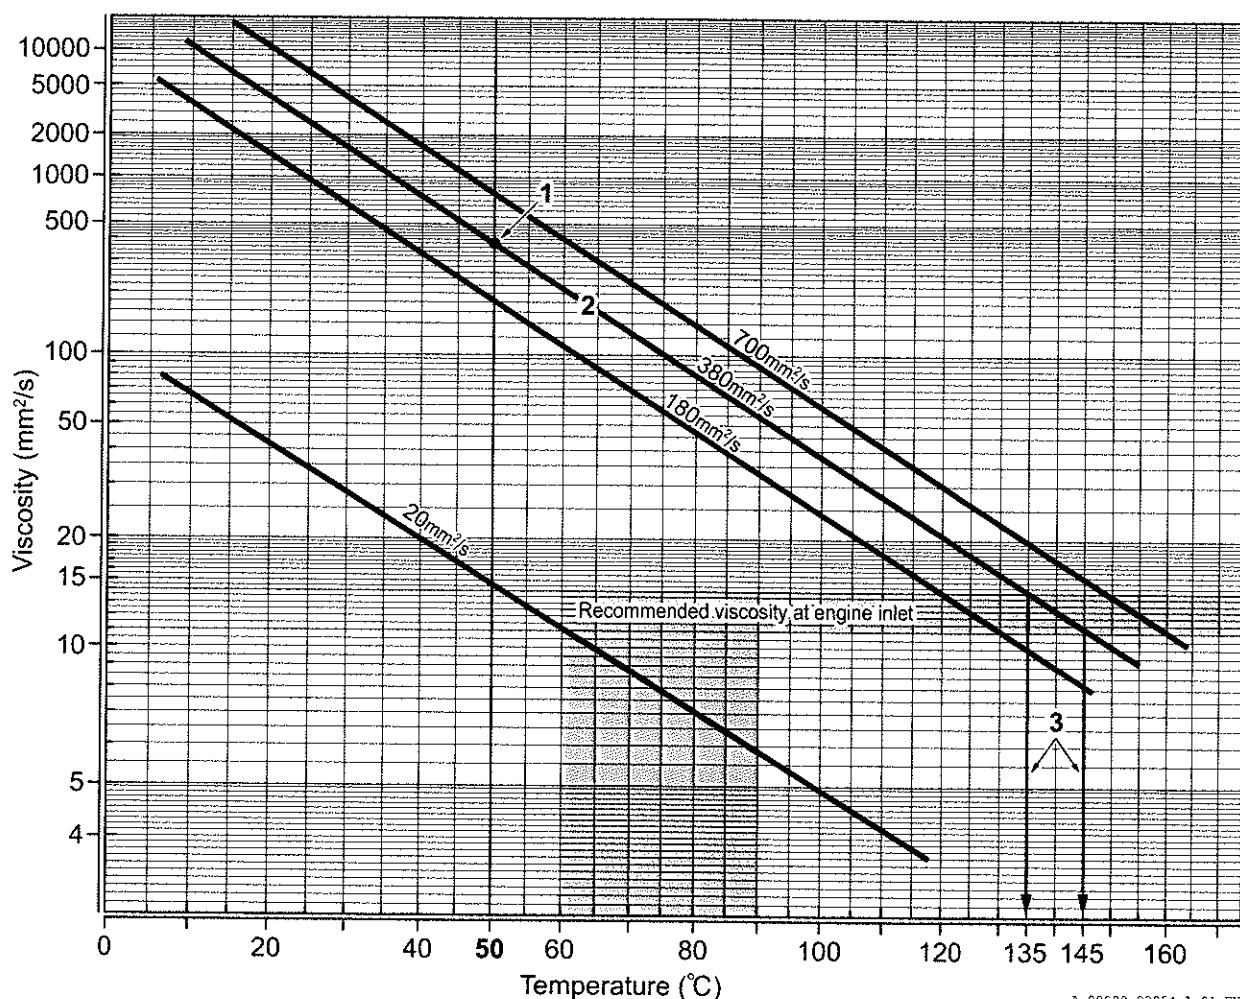

Fig. 2 How to find the correct heating temperature for heavy fuel oil
Viscosity at engine inlet	1.8 mm ² /s to 14 mm ² /s (see Fig. 2)
- Set the fuel heating temperature so that the fuel oil viscosity becomes the recommended viscosity and temperature as indicated in Fig. 2 at the engine inlet to allow a temperature decrease in the piping system.